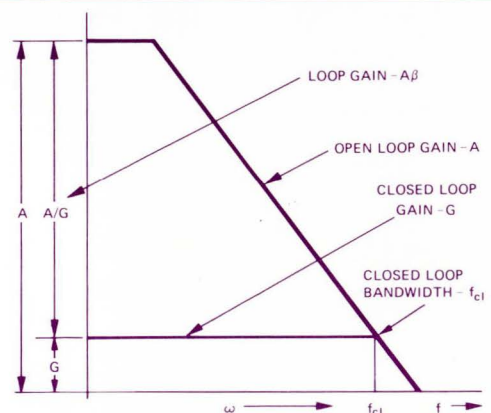
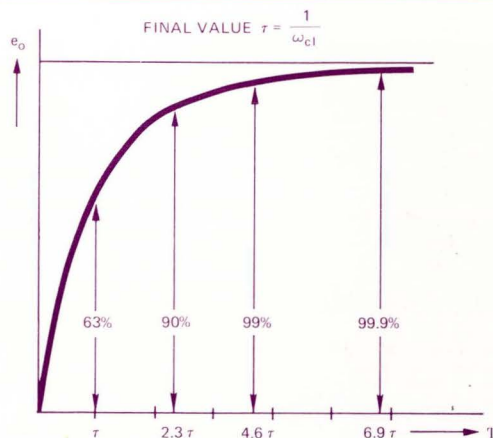
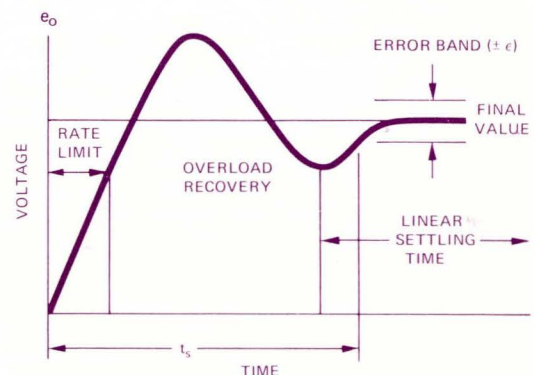

Figure 4. Closed Loop Bandwidth and Loop Gain
Figure 5. Step Response for Linear 6dB/Octave Amplifier
Figure 6. Typical Settling Time Characteristics
2. *What closed loop gain and bandwidth are required?* Closed loop gain, G, is dictated by the application. To a first approximation the intersection of the open and closed loop gain curves in Figure 4 gives the closed loop bandwidth, f_{cl} (-3dB). For high gain, wideband requirements, it may be necessary, or more economical, to use two amplifiers in cascade each at lower gain.
range of frequencies is very often more important than closed loop bandwidth in selecting an amplifier. Loop gain as illustrated in Figure 4, is defined as the difference, in dB, or as the ratio, arithmetically, of the open to closed loop gain ($A\beta = A/G$). You will find in most of the equations defining the closed loop characteristic of a feedback amplifier that the loop gain ($A\beta$) is the determining factor in performance. Some of the more notable examples of this point are as follows:
The time and frequency response of a linear, bilateral network or amplifier are related by well known mathematics. For example, the step response for a well behaved, linear, 6dB/octave amplifier with a closed loop bandwidth of ω_{cl} is shown in Figure 5.
To a first approximation, the curve in Figure 5 can be used to relate settling time to closed loop bandwidth of Figure 4. *Settling time* is defined as the time elapsed from the application of a perfect step input to the time when the amplifier output has entered and remained within a specified error band symmetrical about the final value (Figure 6). Settling time therefore includes the time required for the amplifier to slew from the initial value, recover from slew rate limited overload, and settle to a given error in the linear range.